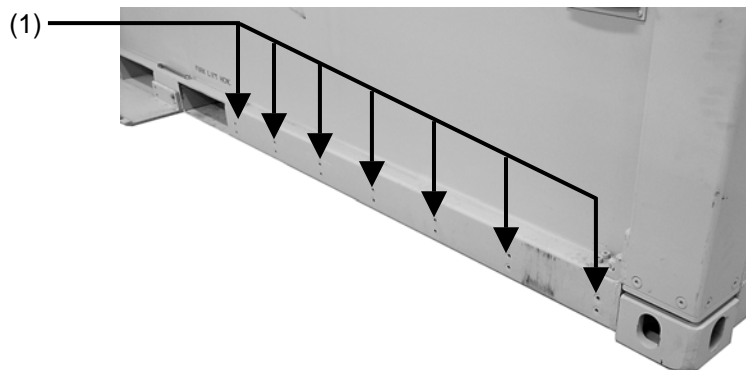

Figure 2-30. Detent rail installation points.
4. Using appropriate tool, bolt detent rails to sides of container using provided holes (1) (Fig. 2-30).